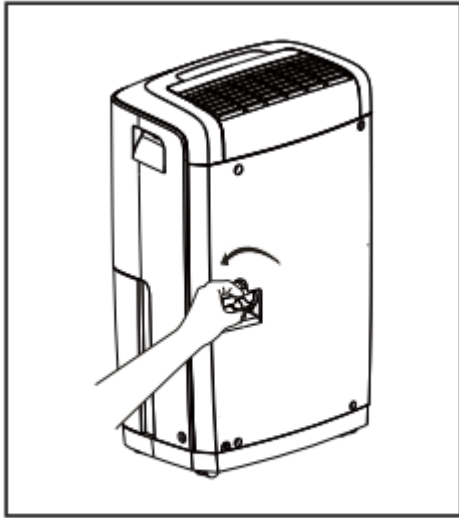

fig. 1
b. Unscrew the drain cap on the back side of the unit. (fig.1)